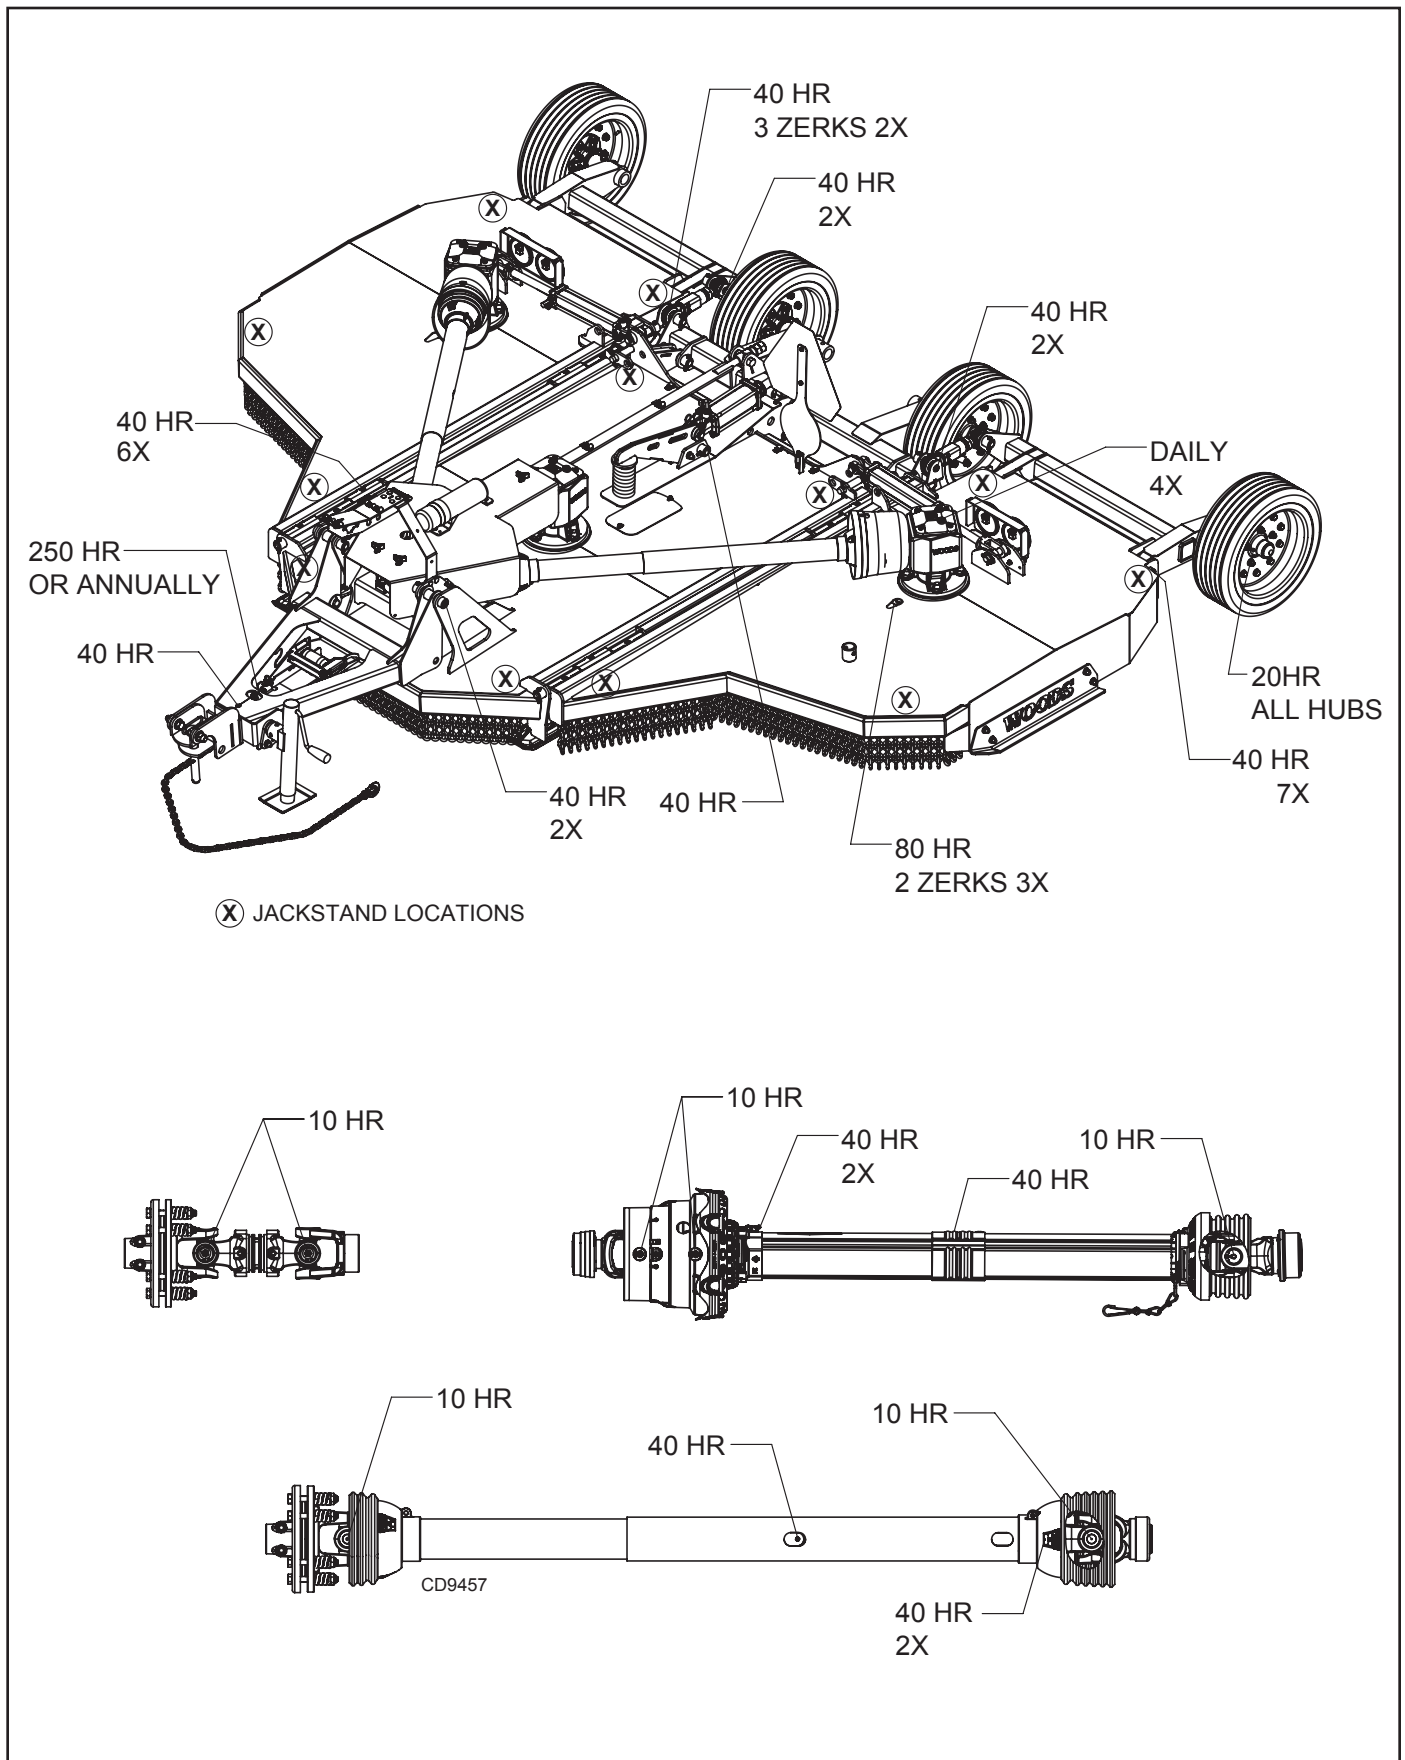

Figure 5. Jackstand Placement and Lubrication Points
1. Jackstands with a load rating of 1000 lbs. or more are the only approved blocking device for this cutter. Install jackstands (shown by Xs in Figure 5) under the cutter before working underneath unit.
- If the cutter moves during storage and pressurizes the hoses, that pressure can be relieved by jacking at the locations shown by X's in Figure 5.
See Figure 5 for lubrication points and frequency or lubrication based on normal operating conditions. Severe or unusual conditions may require more frequent lubrication.
2. Raise cutter and place 4 jack stands under center frame at locations marked "X" in Figure 5, and block securely.
4. Align hole in crossbar (4) with blade access hole in the cutter frame. Remove the bolt (1), blade pin lock clip (2) and keyhole plate (3). Carefully drive blade pin (6) out of crossbar and remove blade (5).